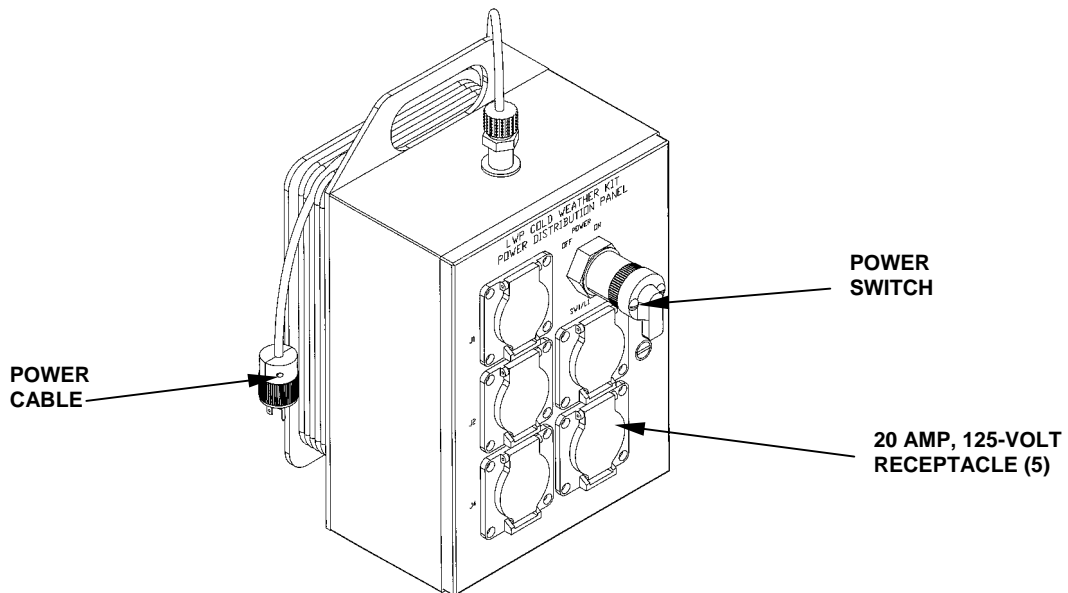

Figure 3. Power Distribution Panel.
1. All power cables/extension cables for cold weather kit connect to the power distribution panel. The receptacles J1 through J5 are compatible with all connectors from the electric thermal blankets and raw water service pump blanket. See Figure 3.
- b. Place the 2-position POWER switch on cold weather power distribution panel in the ON position. See Figure 3.